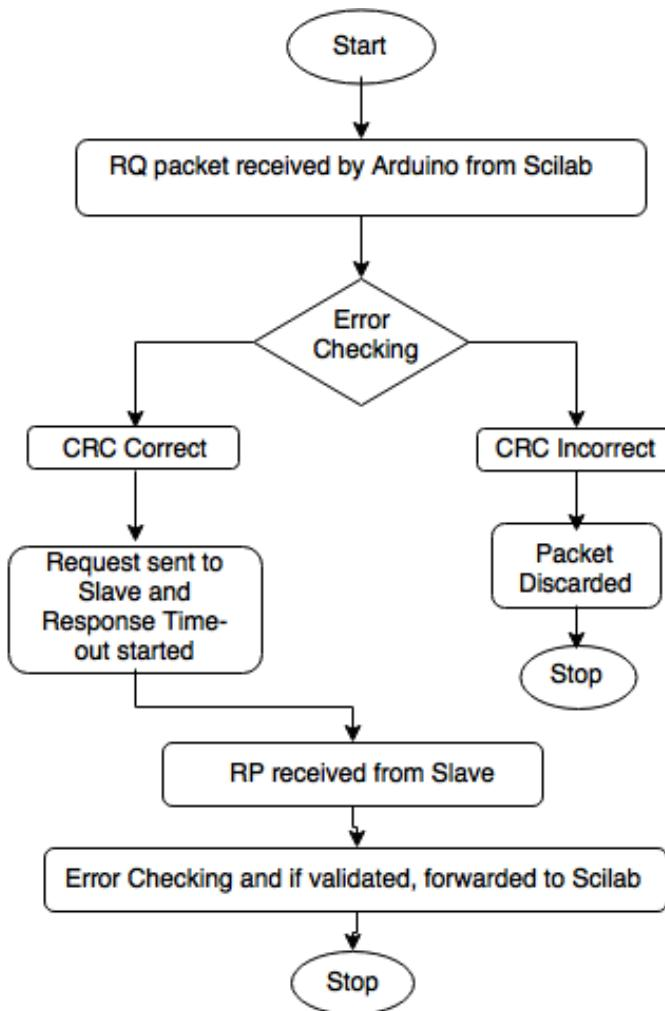

Figure 11.6: Flowchart of Arduino firmware
1. Firmware for Arduino Uno: This firmware is needed to communicate with Scilab (using serial interface), and with RS485 module (using Software Serial interface). Control logic to enable receive and transmit modes of MAX485 chip is also present in this firmware. Fig. 11.6 demonstrates the overall implementation of this firmware.